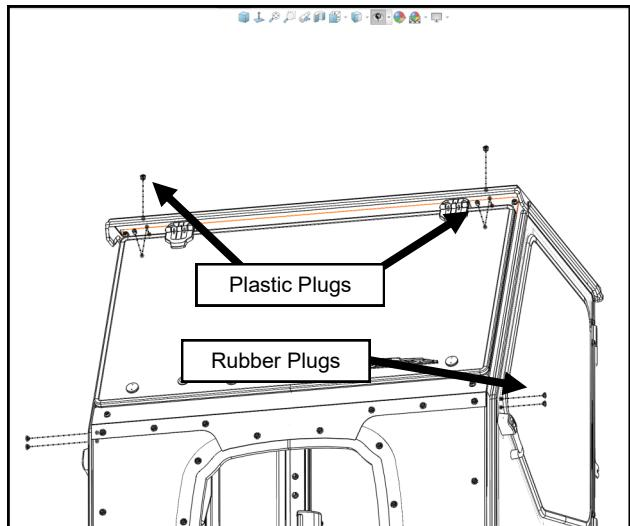

Fig. 19.1 (Install Plugs)
- 19.1** If installing accessories, please do so now. If not, use the supplied plastic and/or rubber plugs to fill any exposed holes. See Figure 19.1.